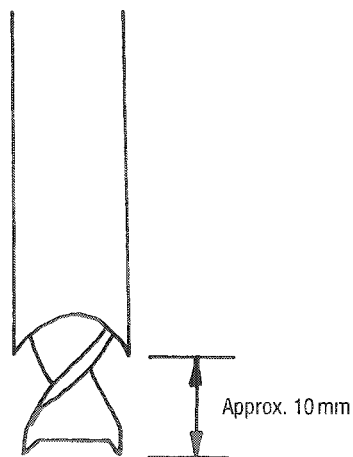

Fig. 4.22 Auger dropped by 10mm.
3. With the machine isolated, insert all components into the machine. Allow the auger to drop by approximately 10mm and nip the Allen screw on to the auger (**Fig. 4.22**). With this accomplished none of the other parts can fall because the hole through the chisel is smaller than the end of the auger.